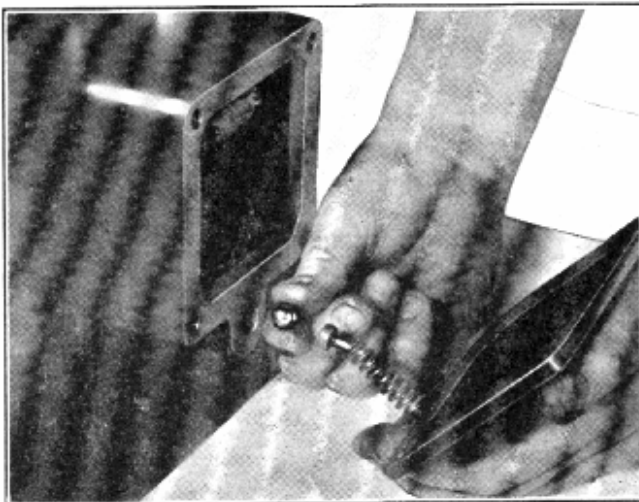

Fig. 14—Gear Shift Cover, Spring, Plunger and Ball are Removed and Installed in Order Shown
5. Rotate the transfer case until the gearshift cover is pointing upwards. Remove the cap screws and the cover (26), the shift shaft lock ball spring (27), the lock ball plunger (28) and the lock ball (29). See Fig. 14.